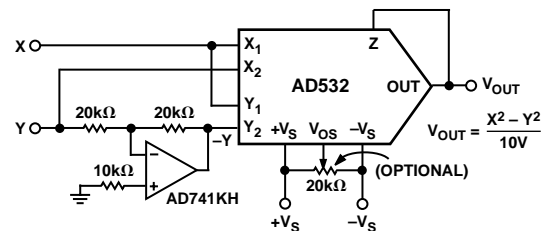

Figure 15. Differential of Squares Connection
The differential input capability of the AD532 allows for the algebraic solution of several interesting functions, such as the difference of squares, $X_2 - Y_2 / 10 \text{ V}$. As shown in Figure 15, the AD532 is configured in the square mode, with a simple unity gain inverter connected between one of the signal inputs (Y) and one of the inverting input terminals ($-Y_{IN}$) of the multiplier. The inverter should use precision (0.1%) resistors or be otherwise trimmed for unity gain for best accuracy.